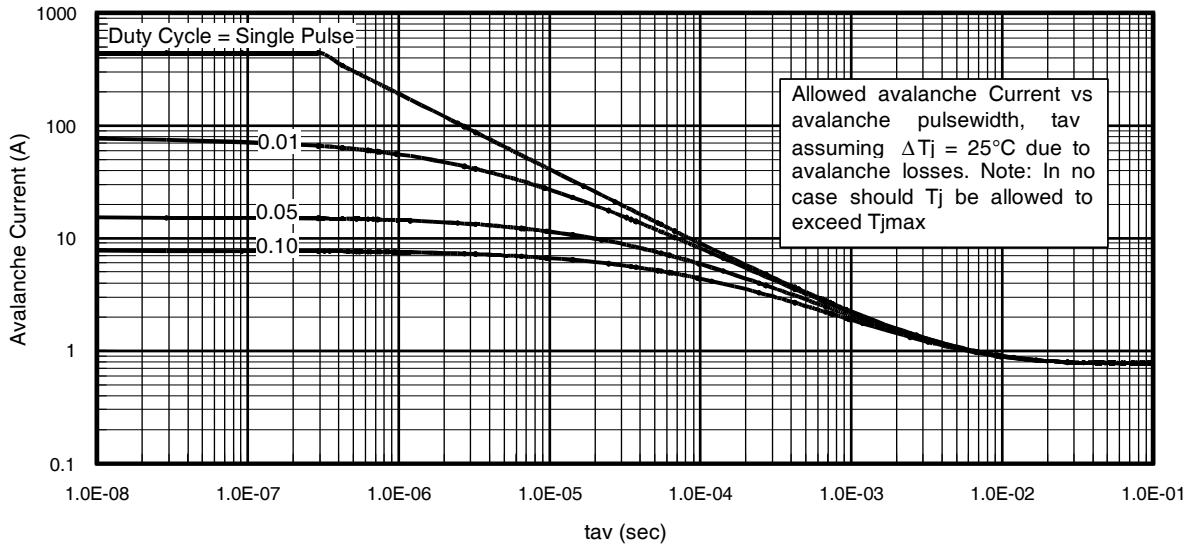

Fig 15. Typical Avalanche Current Vs. Pulsewidth
Notes on Repetitive Avalanche Curves , Figures 15, 16: (For further info, see AN-1005 at www.irf.com)
7. ΔT = Allowable rise in junction temperature, not to exceed T_{jmax} (assumed as 25°C in Figure 15, 16).